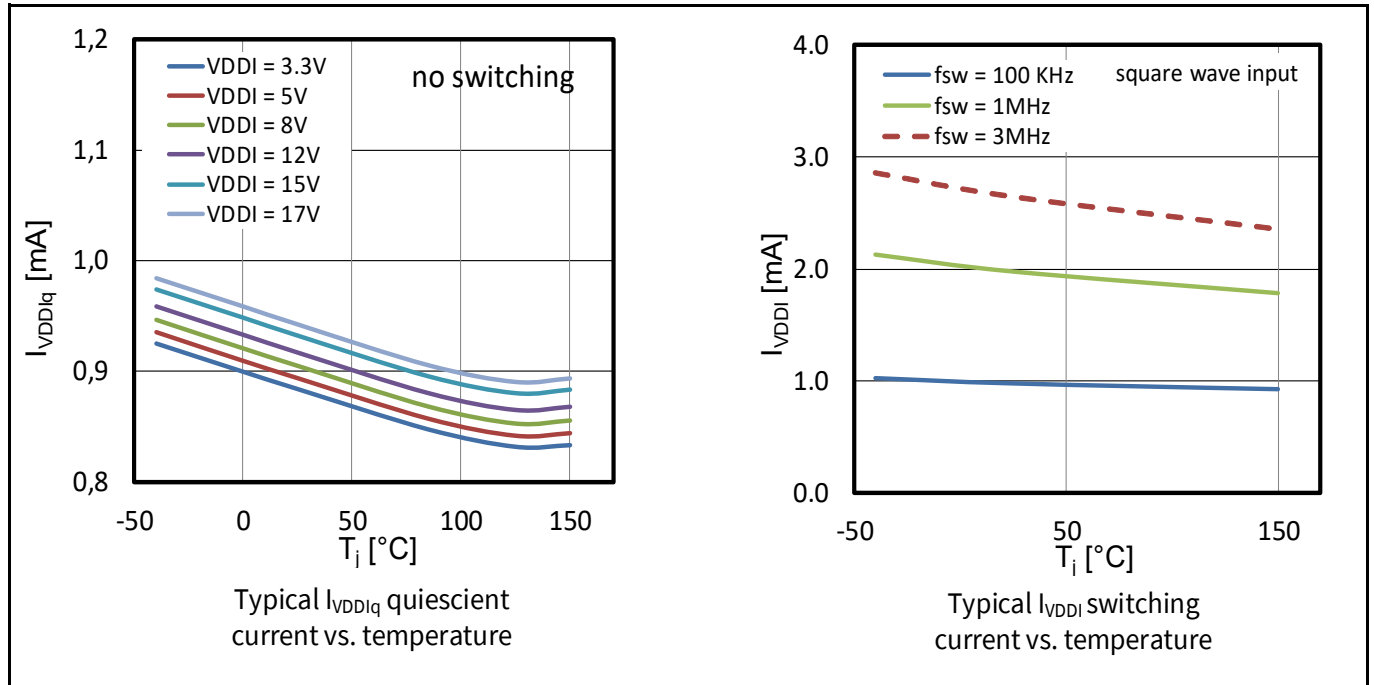

**Figure 14** Typical application circuit for 650 V CoolSiC™ driving
**Figure 14** depicts a typical use case for Infineon's 650 V SiC MOSFETs (CoolSiC™) in a so-called "totem-pole" PFC. It consists of a 48mΩ SiC half-bridge driven by 1EDB9275F and 1EDN9550B EiceDRIVER™; the diode functions indicated in the power path are usually realized with low- $R_{DS(on)}$  MOSFETs operating as synchronous rectifiers. 3.3 kW of power can be handled at very high efficiency (above 99%).
In **Figure 14** a Schottky diode at the CoolSiC™ gate is recommended to clamp switching induced undershoots on the gate terminal which may cause a potential drift in the gate threshold voltage  $V_{gs,th}$  over lifetime.
Figure 14	Updated typical application circuit for 650 V CoolSiC™ updated with the new 1EDN9550B EiceDRIVER™ to drive the low-side MOSFET